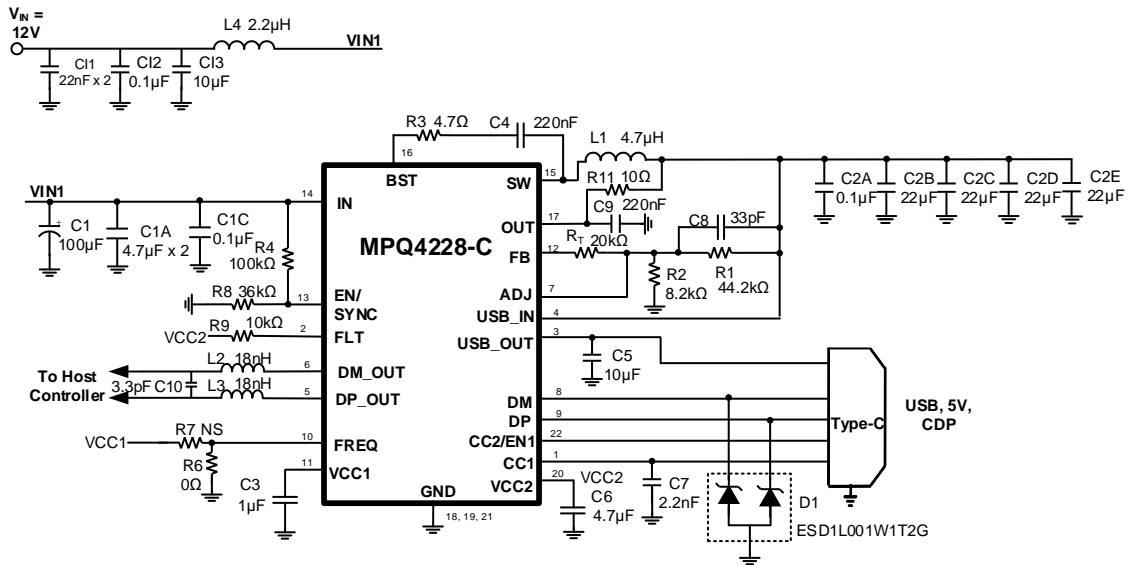

Figure 15: $V_{IN} = 12V$, $V_{OUT} = 5V$, $I_{OUT} = 3A$, $f_{sw} = 420kHz$, Type-C DFP with BC1.2 CDP Mode
- 9) The recommended layout is based on the typical application (see Figure 15 on page 27)